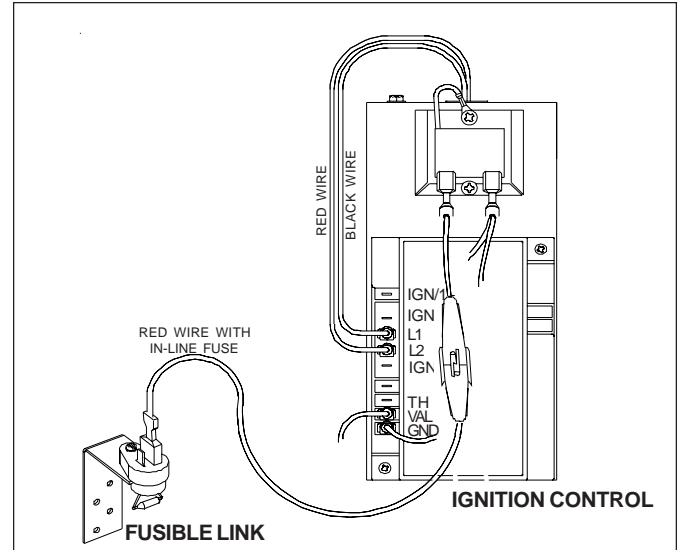

Figure 6. In-line fuse connection to fusible link
4. Connect the red wire with the in-line fuse to the tab at the lower left side of the transformer. The fuse holder should be closest to the end attached to the transformer. Connect the other end of the wire to either terminal on the fusible link. (See Figure 6.)